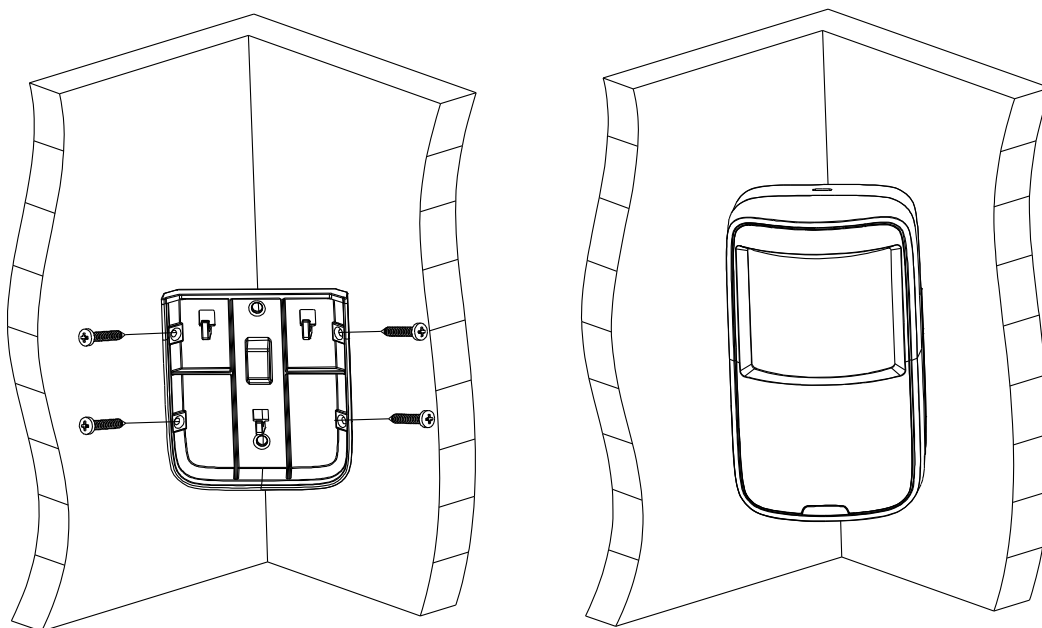

Figure 3-3
Step 4. For corner mount, form a triangle with installation bracket and two walls. Fix it on wall with screw via the hole on installation bracket, and hang device on hanger on installation bracket. See Figure 3-3.